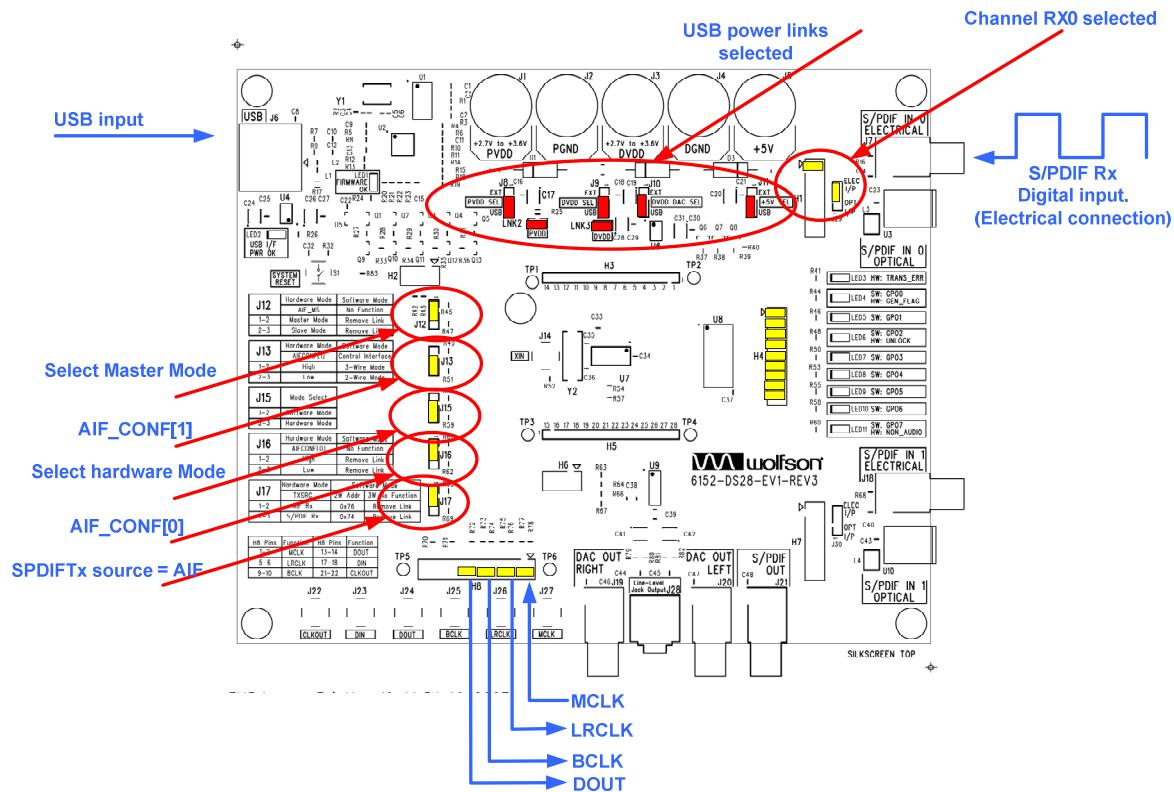

Figure 2 RX0 Input Path to Audio Interface Evaluation Board Configuration
- Figure 2 illustrates the jumpers which must be made on the board.
The jumpers, input signals and output signals are shown in Figure 2. The yellow jumpers are those that are required. The red jumpers are for power.